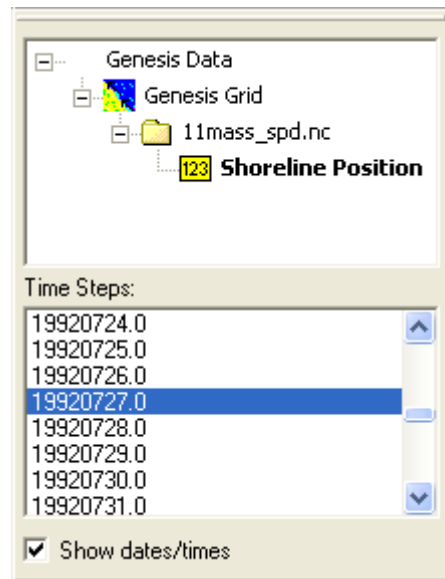

Figure 24-13. Dates in the data tree window.
- Select a date from the data tree window, as shown in Figure 24-13.